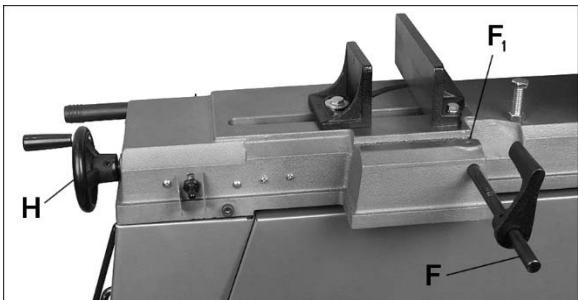

Figure 5-5
2. Install handwheel (H, Figure 5-5) onto vise lead screw shaft, aligning the set screw with the flat on the shaft. Tighten set screw.
3. Install workstop rod (F) into hole and tighten set screw ( $F_1$ ). Slide work stop on rod and secure with set screw.